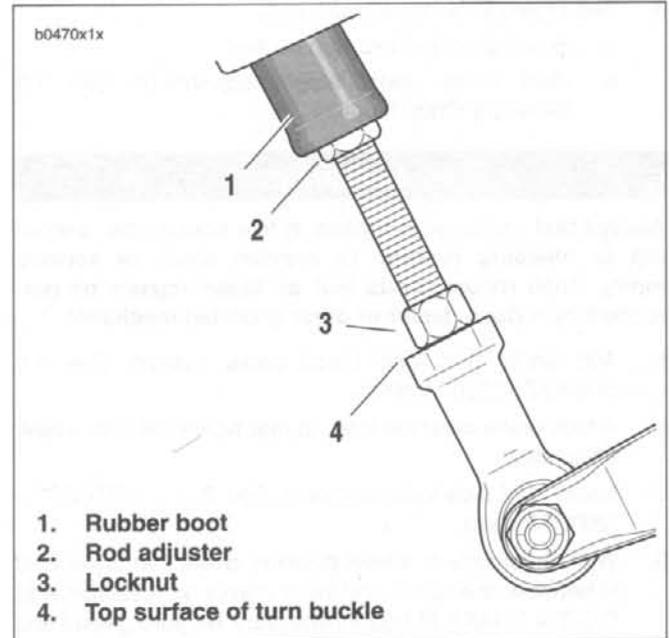
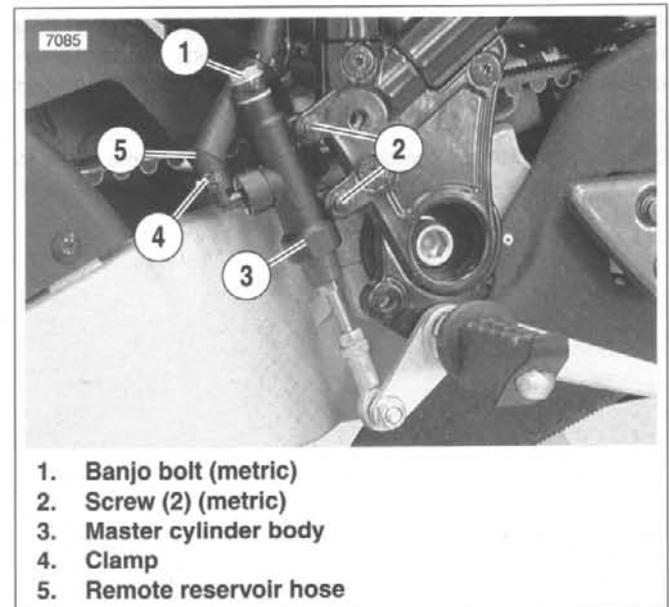

Figure 2-79. Brake Push Rod
Figure 2-80. Master Cylinder Mounting
5. See Figure 2-79. Disconnect push rod from brake pedal turn buckle (4).
- a. Spin locknut (3) away from top surface of turn buckle.
- b. Turn rod adjuster (2) to free rod from turn buckle (4).
6. See Figure 2-80. Remove screws (2) (metric) to detach master cylinder (3) from frame.
2. See Figure 2-80. Attach master cylinder (3) to frame. Apply **LOCTITE THREADLOCKER 243** (blue) to both screws (2) (metric). Tighten to 8-10 **ft-lbs** (10.8-13.6 Nm).
4. See Figure 2-79. Install push rod.